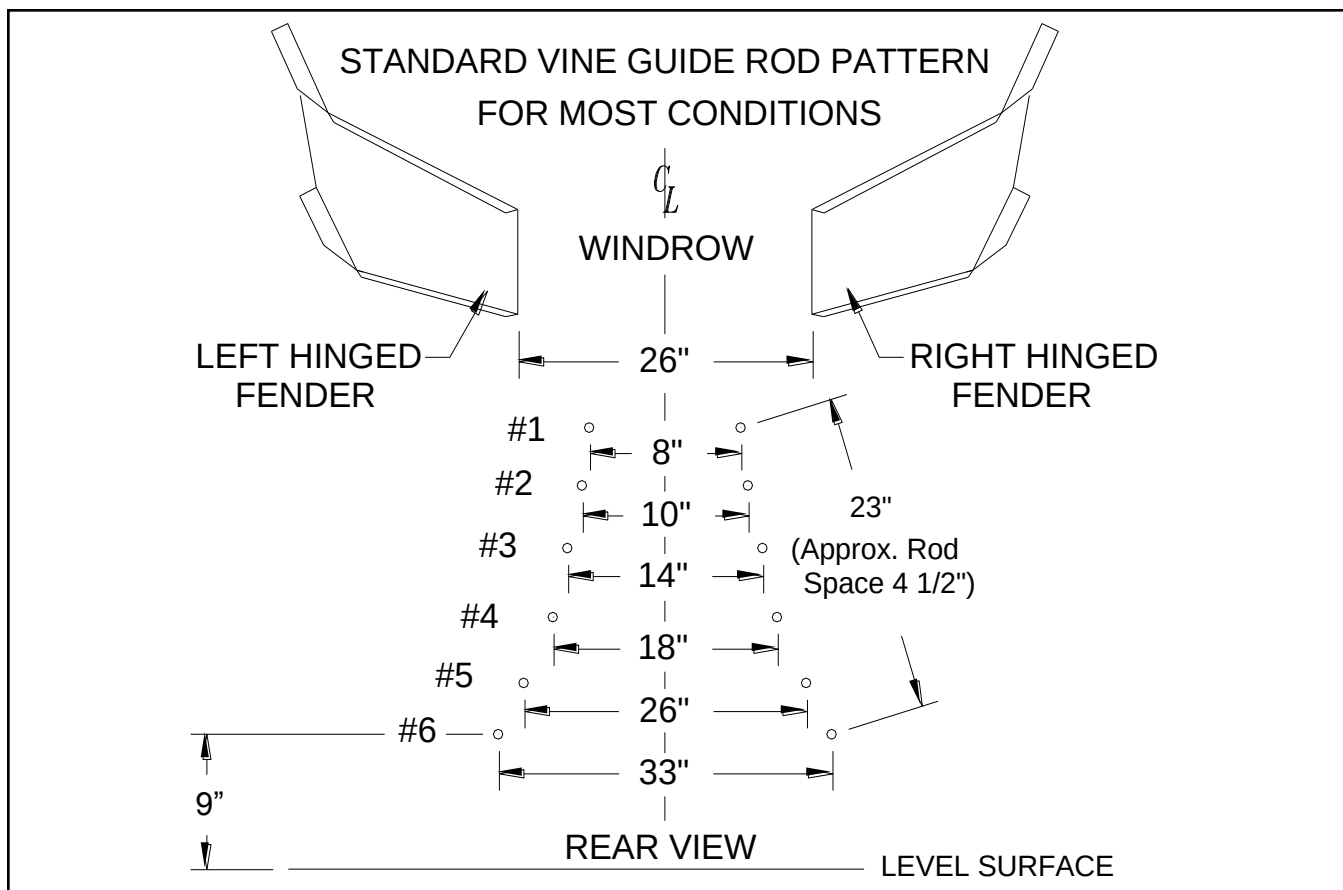

Figure 3 (For 2-Row 36" -40" Rows)
While mounting the cylinder inverter the vine guide rods can get bent out of shape. Reshape the rods to conform with the recommended vine guide rod pattern as shown in figure 3.
On 2-row machines center the vine guide rod pattern on centerline of rattler frame as shown in figure 3.
5. Check vine guide rod pattern (refer to figure 3)